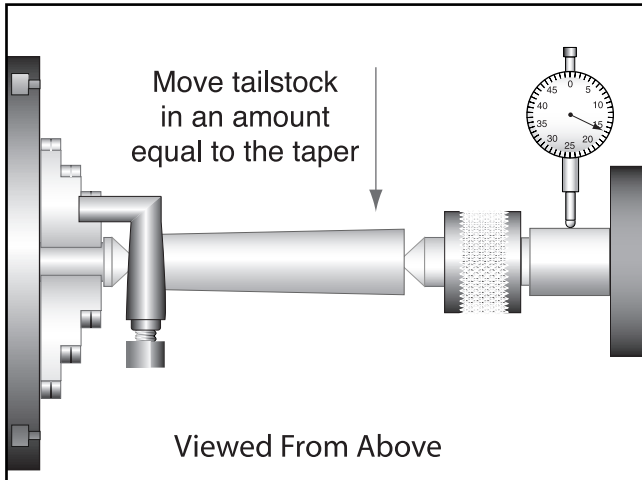
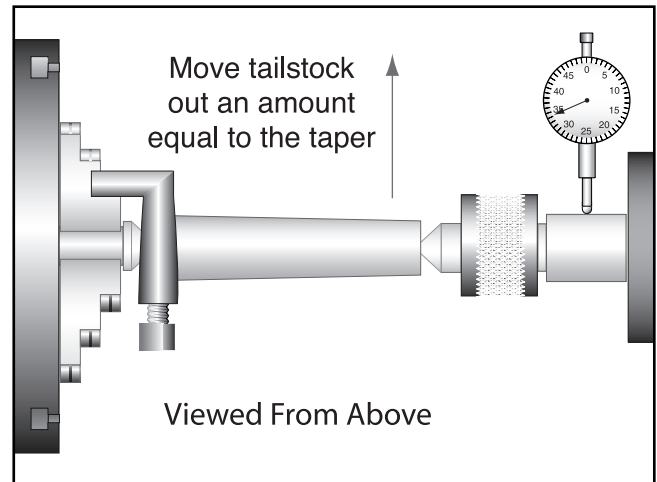

Figure 34. Adjusting for headstock end taper.
Figure 35. Adjusting for tailstock end taper.
Before making adjustments to the tailstock, mount a dial indicator so that the dial plunger is on the tailstock barrel. **See Figure 34.**
6. Measure the workpiece with a micrometer. If the stock is fat at the tailstock end, the tailstock needs to be moved toward you the amount of the taper. **See Figure 34.** If the stock is thinner at the tailstock end, the tailstock needs to be moved away from the operator by at least the amount of the taper. **See Figure 35.**